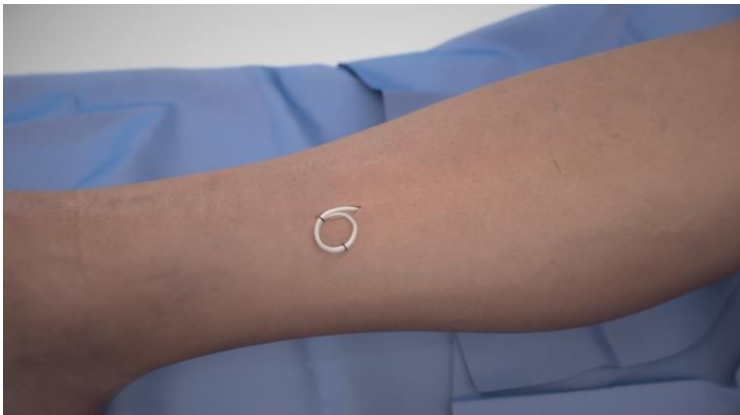

Figure 2
3. Tie two non-absorbable sutures to permanently form the receiver coil. Tuck the end of the receiver coil underneath the coil to avoid protruding edges. This may mitigate potential pocket complications associated with erosion. (Figure 2)